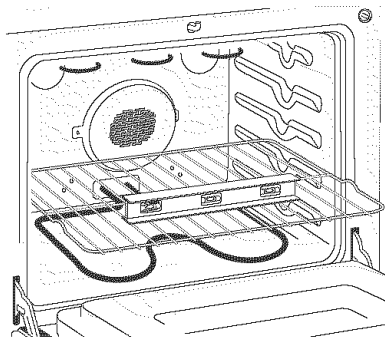
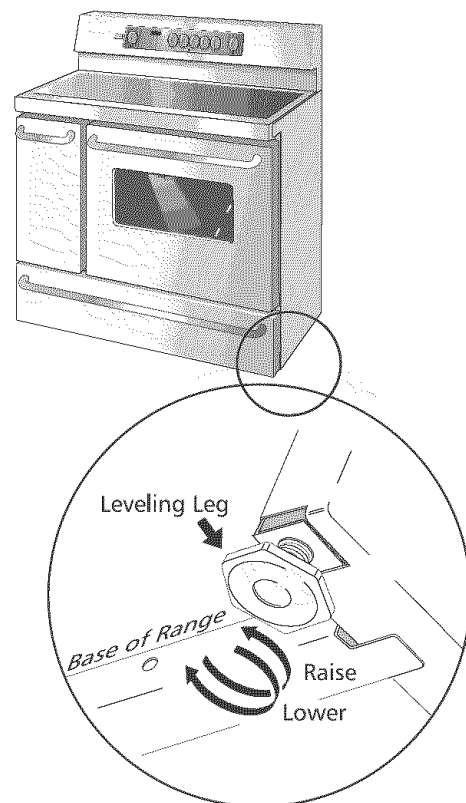

Figure 9
Figure 11
2. Place a level on the rack (see figure 9). Take 2 readings with the level placed diagonally in one direction and then the other. Level the range, if necessary, by adjusting the 4 leg levelers with a wrench (see Figure 11).
4. Level range if necessary, by adjusting 4 leg levelers with wrench. (See Figure 11). A minimum clearance of 1/8" (3.2 mm) is required between the bottom of the range and the rear leg levelers to allow room for the anti-tip brackets.